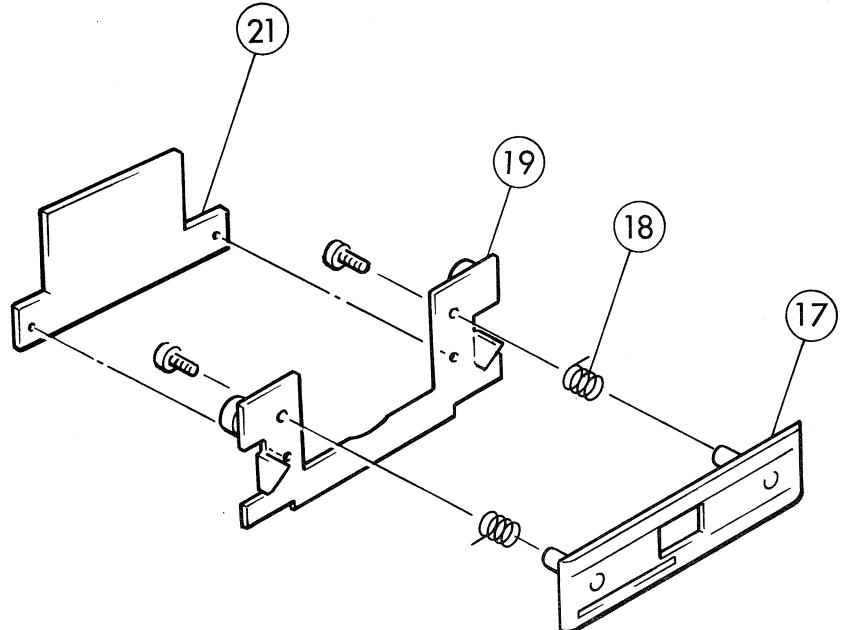

Fig.8
1. See to it that the film pressing surface ⑯ has no scratch and that ⑮ faces to correct direction (see Fig. 8), and after reassembly, check the function of ⑯.